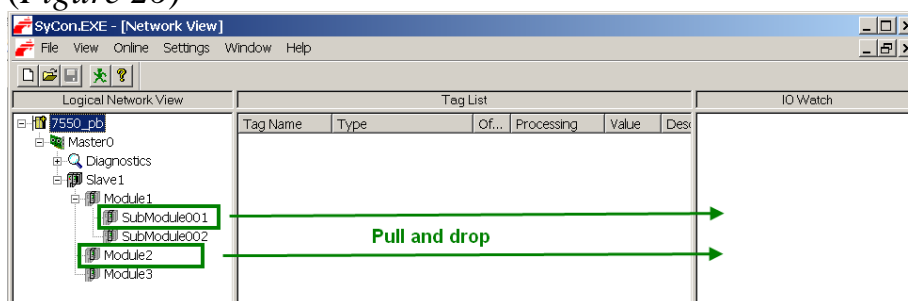

Figure 26: Creating a input watch window
- Pull “SubModule001” and “Module2” to the IOWatch window (Figure 26)